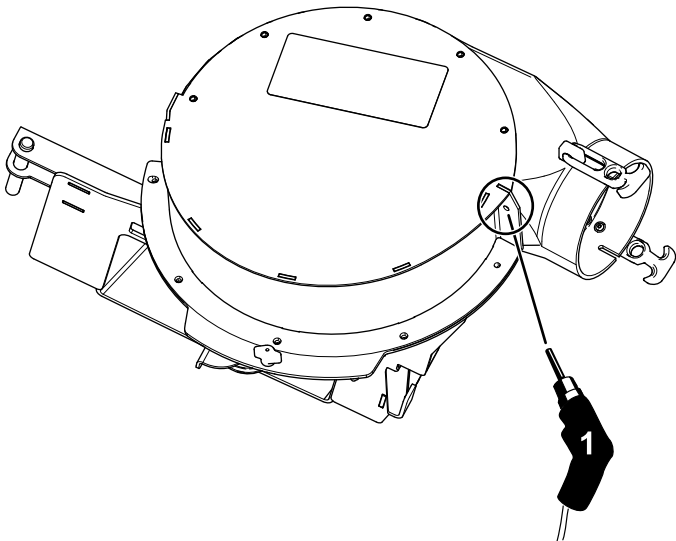

Figure 2
2. Using the cover as the template, drill 1 hole (6.4 mm or 1/4 inch) into the blower chute (Figure 2).